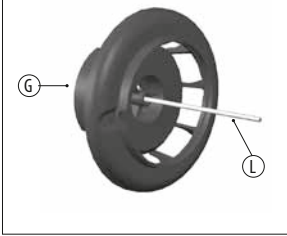

fig 5
- Position the motor support (M) on the motor (N) as shown in –fig.5